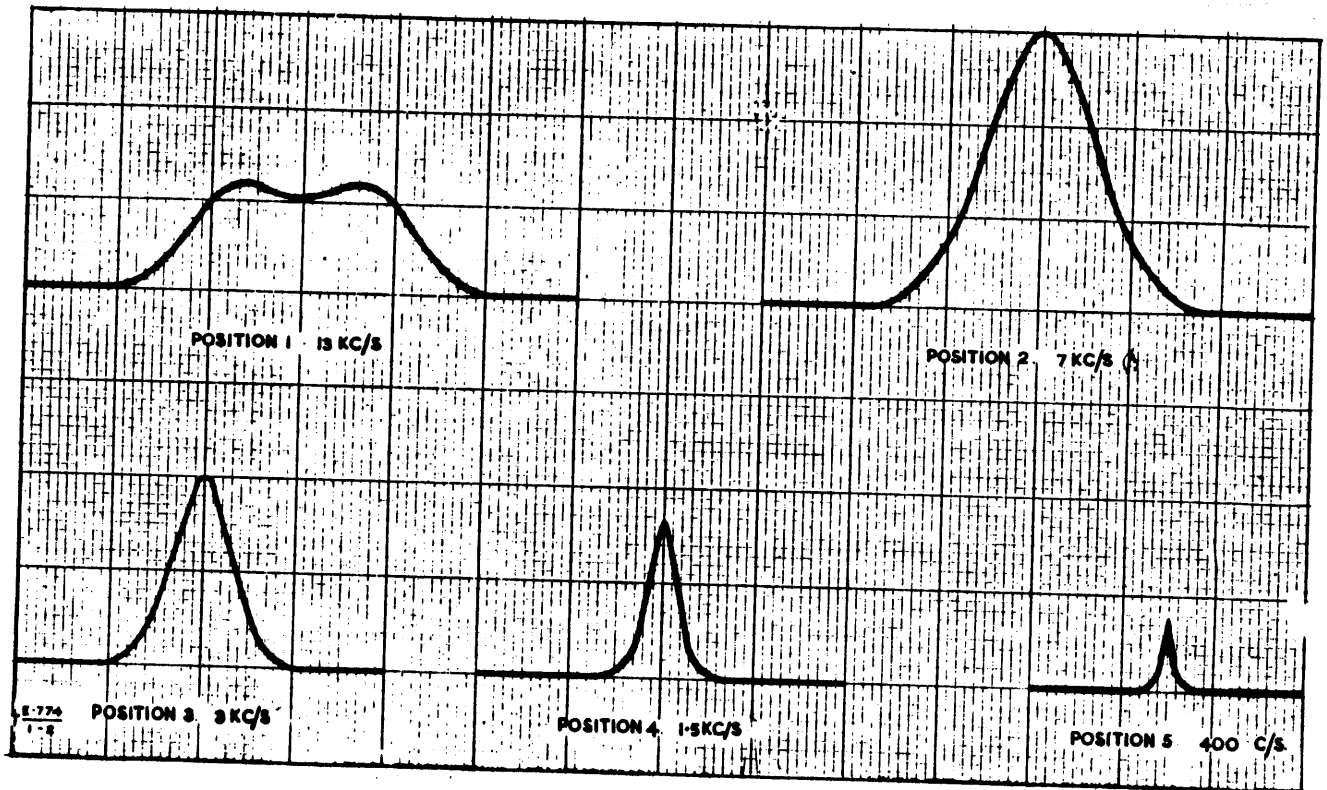

Fig 2 - I.F. response curves, AR88D
31. Compare the I.F. response curves in SELECTIVITY positions 1, 2 and 3 with those illustrated in Fig 2 or 3. These are idealized response curves which would be obtained from a perfectly aligned I.F. channel. The respective heights of the response curves indicate the relative responses of the I.F. channel in the different SELECTIVITY positions. These curves however are very difficult to reproduce exactly and approximations within the limits specified in Table 2 are sufficient for all purposes.